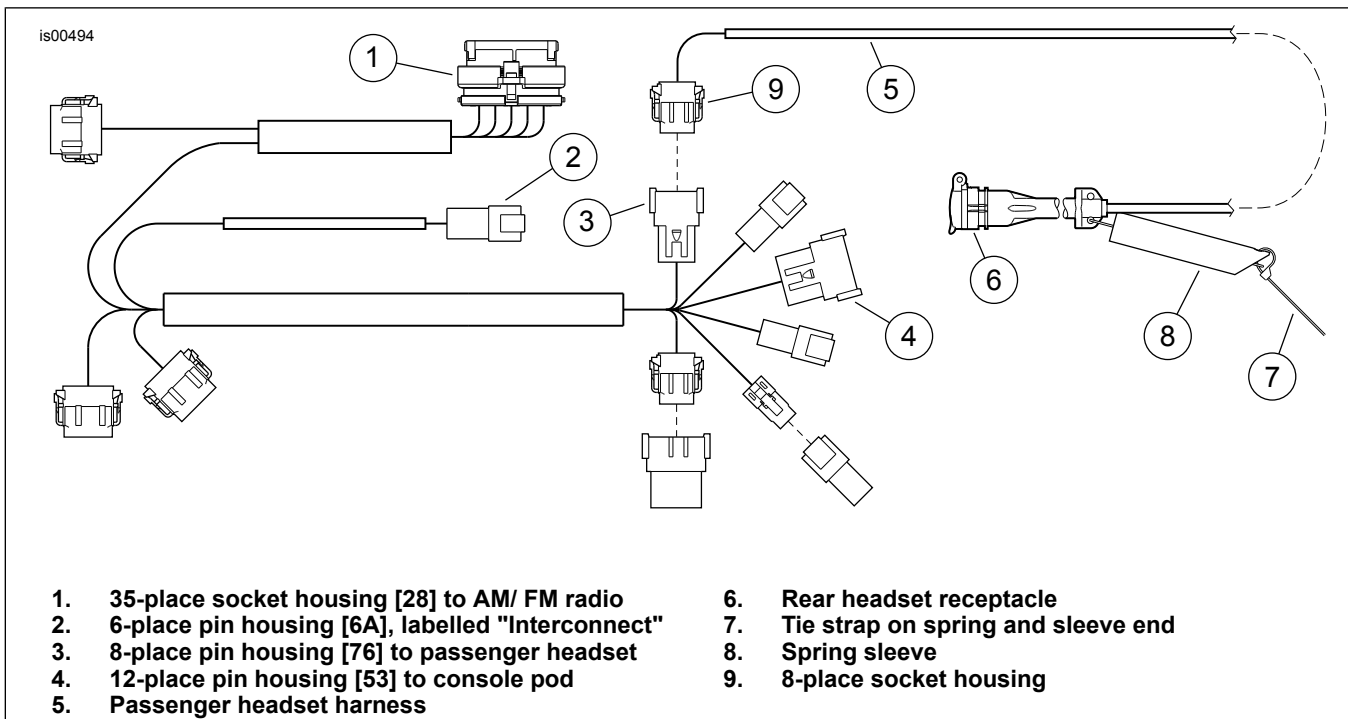

Figure 1. Harness Connections
4. See Figure 1. Obtain the passenger headset harness (5) from the kit. With the headset receptacle (6) facing forward, capture the receptacle in the bracket on the underside of the left-side rear speaker housing.
5. **If the Advanced Audio High-Output Amplifier is installed under the Tour-Pak:** Grasp the tie strap (7) on the end of the Vinyl spring sleeve (8), and use a tie strap from the kit to fasten the end of the spring to the lower left slot on the license plate holder. If stronger headset receptacle retention is desired, the spring assembly in the kit can be replaced with spring assembly 76300-06 (purchased separately). **If no Amplifier is installed:** Grasp the tie strap (7) on the end of the Vinyl spring sleeve (8), and hook the sleeve and the end of the spring onto the tab at the upper right of the license plate holder.
- a. See Figure 1. Plug the socket housing (9) on the end of the intercom harness into the overlay harness 8-place pin housing [76] (item 3)
- b. Plug the 35-place radio socket housing [28] (1) into the radio.
- c. Locate the interconnect harness audio connector [6B] near the back of the radio. Plug 6-way pin housing [6A] (2) on the overlay harness into socket housing [6B].
- d. Plug the overlay harness 12-place pin housing (4) labeled "Intercom" [53] into the socket housing coming from the console pod.